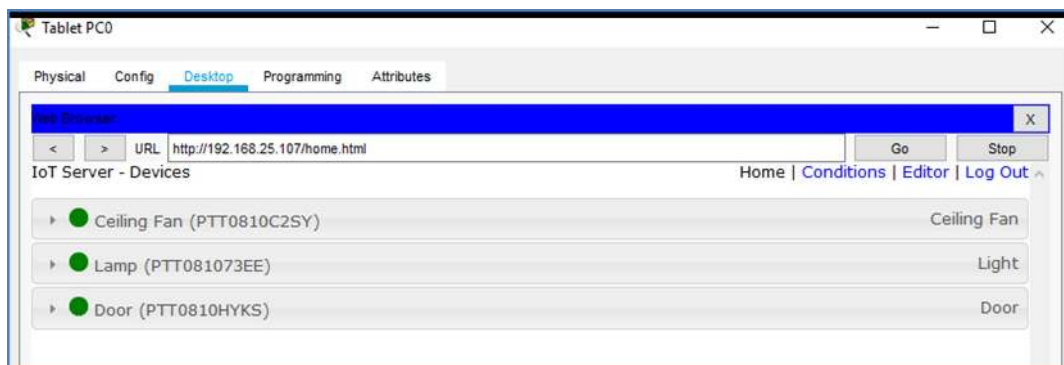

Figure 9.10: Newly Registered Devices Showing in the IoT Server List
- After a short delay, your newly registered devices (**Ceiling Fan, Lamp, Door**, etc.) should appear in the IoT Server **Devices** list (Figure 9.10).